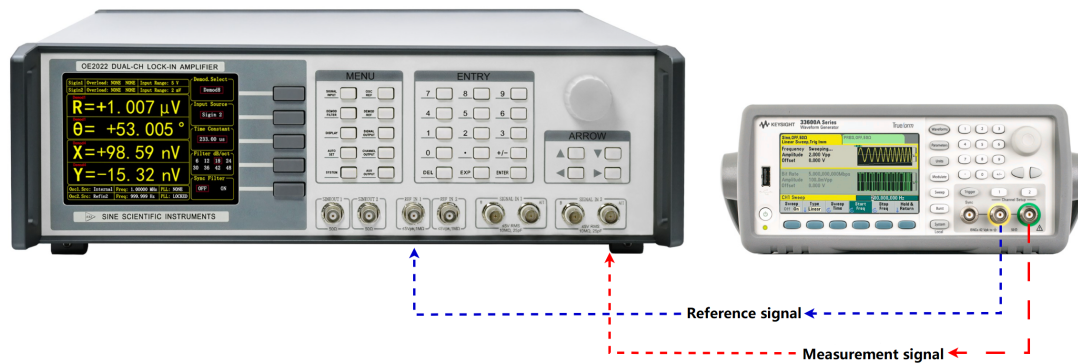

Figure 92. Signal Cable Connection Diagram
2. Use a signal cable with BNC connectors to connect the output connector of the function generator to the IN+ connector of SIGNAL IN 1 on the front panel of the OE2022. Use another BNC signal cable to connect the synchronous reference signal connector of the function generator to the REF IN 1 connector on the front panel of the OE2022, as shown in Figure 92.